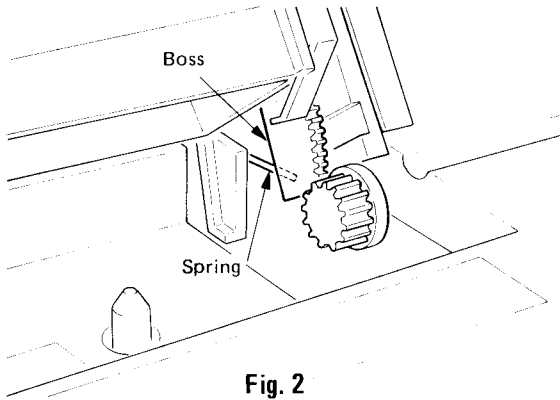

Fig. 2
2. Installing the Cassette Lid (For Only Cassette Lid Assembly) (Fig. 2)
- (1) Securely hook the boss of the cassette lid at the spring as shown in Fig. 2.